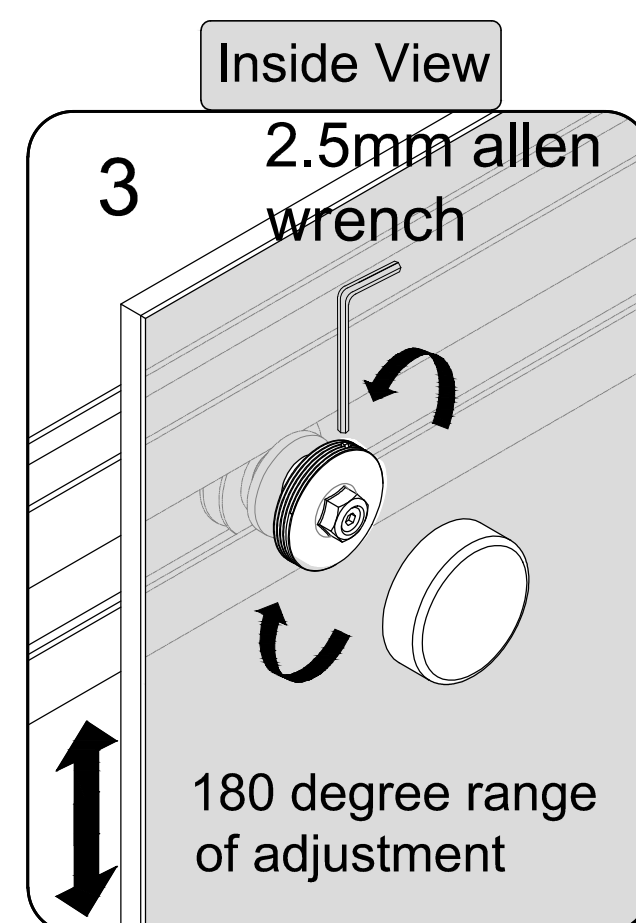

Fig.3
3. Adjust rollers up or down to make sure the door align with wall as Fig 3.